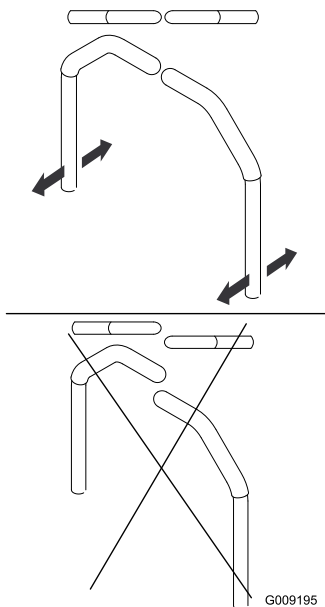

Figure 92
4. Align the levers in the front-to-rear position by bringing the levers together to the NEUTRAL position, and slide them until they are aligned, then tighten the bolts (Figure 92).